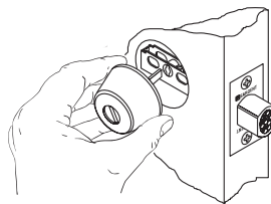

Figure 4
- With deadbolt extended, install cylinder housing without key and cylinder tailpiece in line with tailpiece slot. (See Figure 4).